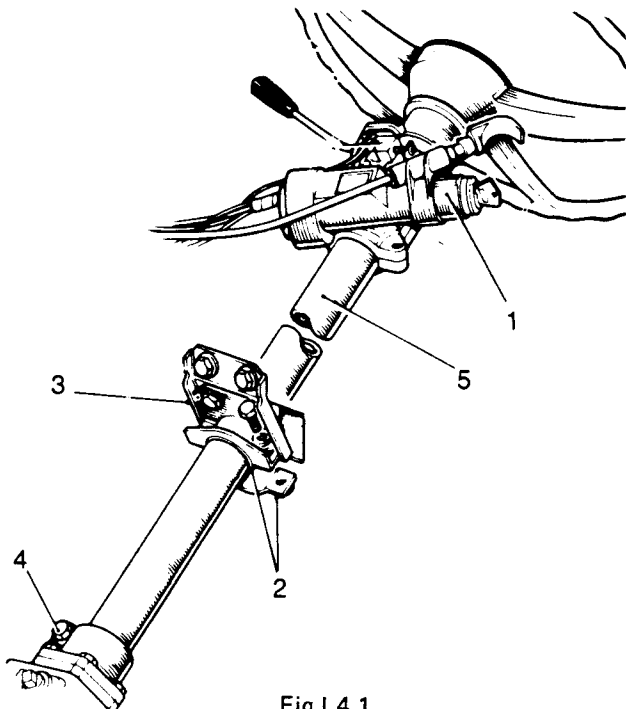

Fig L4.1
- (4) Refer to Fig L4.1. On vehicles without a steering column lock, unscrew the lock ring (1) and move aside the ignition/starter switch from the mounting bracket.
- (5) Remove the column clamp bracket and seal (2).
- (6) Remove the column support bracket (3).
- (7) Slacken the pinch bolt (4) outer column to steering box.
- (8) Withdraw the outer column (5) from the inner column and steering box.